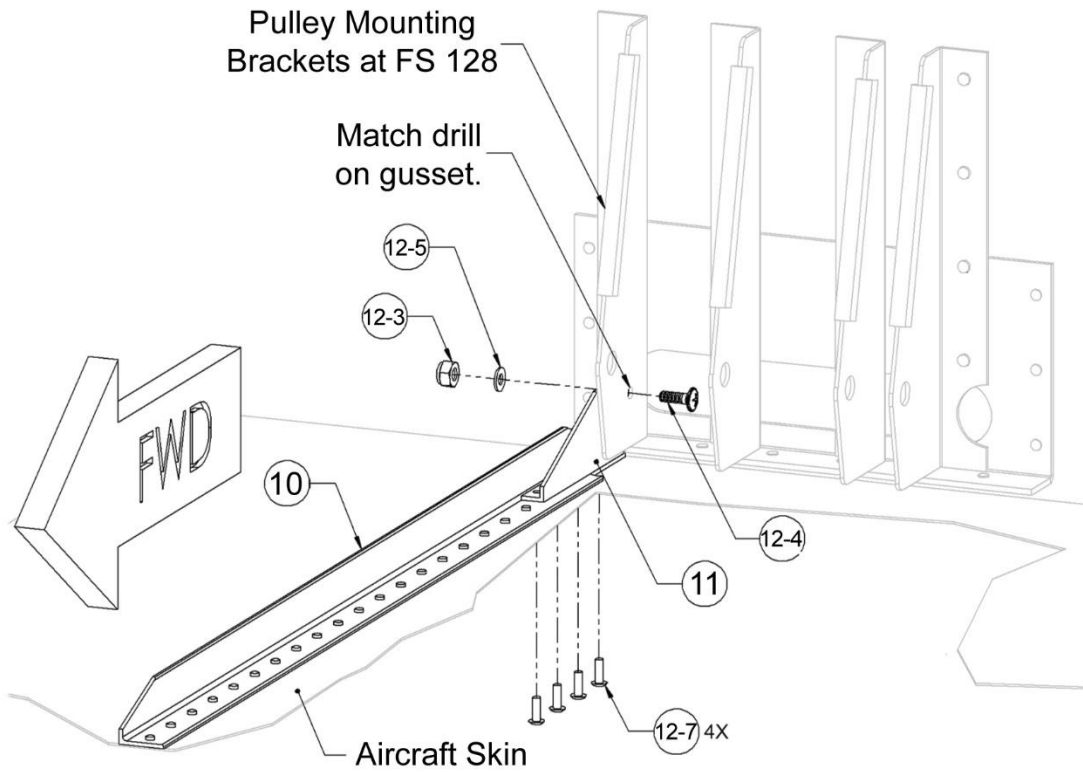

Figure 19: Pitch Servo Gusset Installation
- Position of cable clamps closely match dimensions shown in Figure 19.